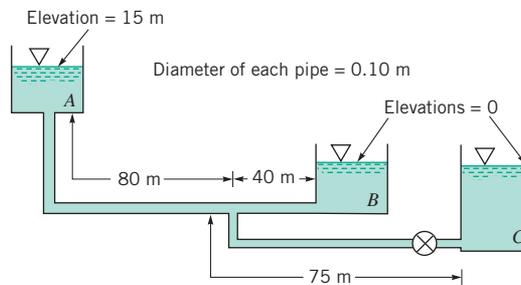

FIGURE P8.91
**8.91** With the valve closed, water flows from tank A to tank B as shown in Fig. P8.91. What is the flowrate into tank B when the valve is opened to allow water to flow into tank C also? Neglect all minor losses and assume that the friction factor is 0.02 for all pipes.